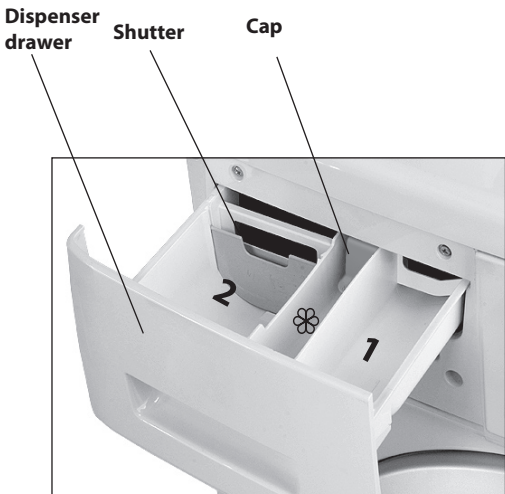

Figure 14
7.2.5 When additional functions ,  are chosen the powder detergents are to be used which are to be placed to section 1 in accordance with figure 14.
7.2.8 Bleaching substances during selection of the program "SOILS" are to be placed to section 1 in accordance with figure 14, and bleaching takes place directly after the main washing.
Before the use of the liquid bleacher a chute for the liquid bleacher is to be inserted to section 1 in accordance with figures 14,15. A mark on the cap CL MAX determines the maximal level of bleacher filling to the chute.
7.2.9 For improvement of washing quality and machine protection from lime sediments during washing in water having hardness degree II or III a water smoothening agent is to be used along with a detergent. It should be added to the detergent to section 2 in accordance with figure 14 as per manufacturer's recommendations.
7.3.4 Mould stains are to be eliminated during washing along with addition of a bleacher to a section of chute 1 in accordance with figure 14, if the fabric is resistant to bleacher impact. In rest cases the stained section is moistened with 10% solution of hydrogen peroxide and left for 15 minutes.